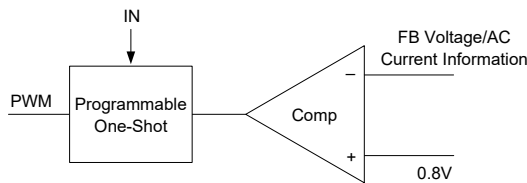

Figure 4. Simplified Control Schematic of AOZ2153PQI-04
The simplified control schematic is shown in Figure 4. The high-side switch on-time is determined solely by a one-shot whose pulse width is inversely proportional to input voltage (IN). The one-shot is triggered when the internal 0.8V is higher than the combined information of FB voltage and the AC current information of inductor, which is processed and obtained through the sensed lower-side MOSFET current once it turns-on. The added AC current information can help the stability of constant-on time control even with pure ceramic output capacitors, which have very low ESR. The AC current information has no DC offset, which does not cause offset with output load change, which is fundamentally different from other  $V^2$  constant-on time control schemes.